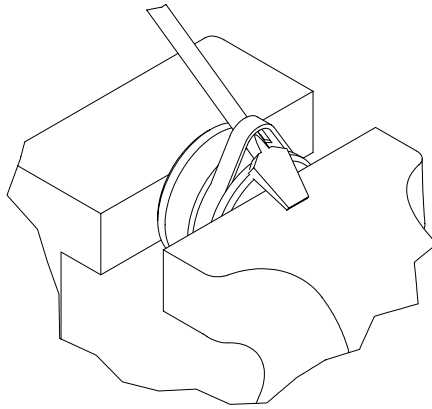

Figure 5-4, Rod Assembly
8. Carefully pry up on the piston seals using a blunt tip screw driver being careful not to scratch the seal grooves. Cut the seals to remove from the piston. (Figure 5-4)